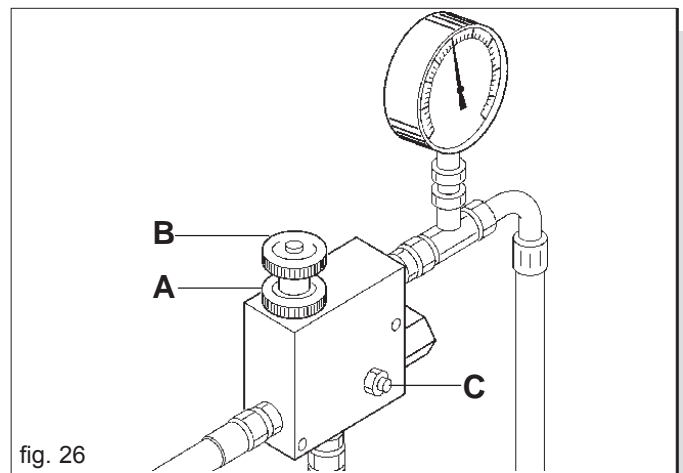

fig. 26
If you wish to increase the number of revolutions of the fan for distributing heavier seeds, carefully proceed as follows (Fig. 26):
- loosen the handwheel (A Fig. 26);
- rotate the handwheel (B Fig. 26) clockwise or anticlockwise to reduce or increase pressure and adjust the number of revolutions of the blower accordingly.
**It is strictly forbidden to touch act on the dowel (C Fig. 26) for any reason, as this would unset the system and could lead to the motor or pump breaking.**